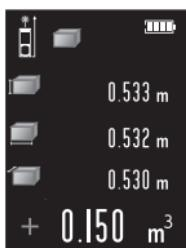

Fig. 5
Step2 – Short press button , and then repeat the volume measurement movement to get a second result of volume as Fig. 5